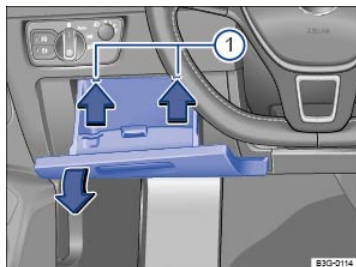

Fig. 164 On the driver side in the instrument panel: Fuse box cover.
- Press the retaining tabs up at the top of the storage compartment ⇒ Fig. 164 ① to release the cover while pulling to the cover from the bottom to remove.